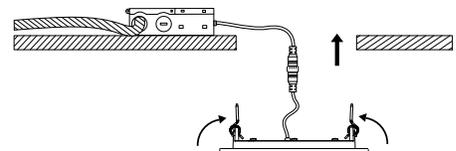

Fig. 5
5. Turn on the power to confirm the fixture is working properly. (Fig. 5)